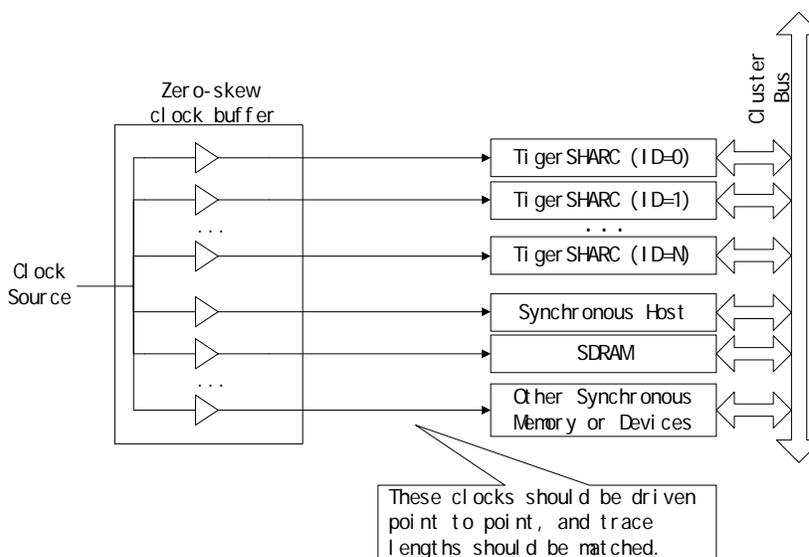

Figure 3. Clock distribution method
- Connections should be point-to-point from zero-skew clock buffer output to device clock input. Match trace lengths to minimize skew. See Figure 3.